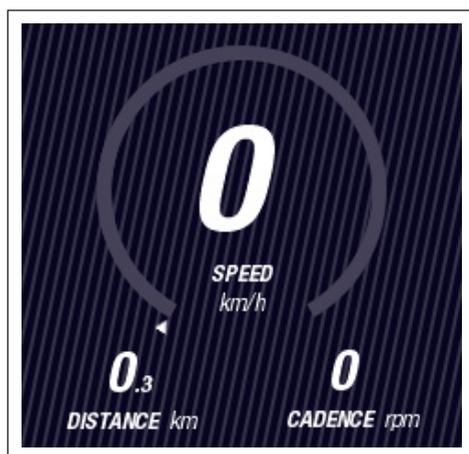

Fig. 31: Screen with shading
- The current screen is shaded when ride recording is paused (see Fig. 31).